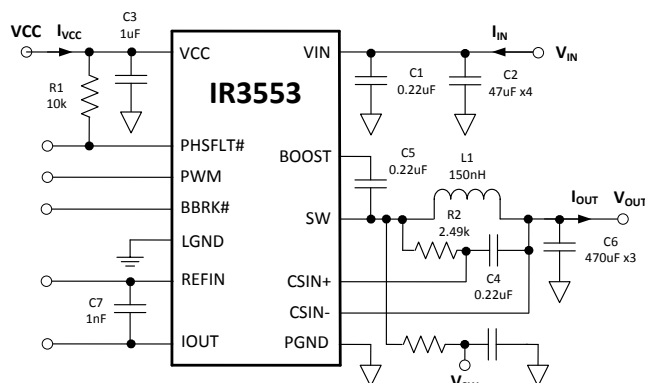

Figure 32: IR3553 Power Loss Measurement
Circuit of Figure 32, $V_{IN}=12V$, $V_{OUT}=1.2V$, $f_{SW} = 400kHz$, $L=150nH$ ($0.29m\Omega$), $V_{CC}=7V$, $T_{AMBIENT} = 25^{\circ}C$, no heat sink, no air flow, 8-layer PCB board of 3.7" (L) x 2.6" (W), no PWM controller loss, no inductor loss, unless specified otherwise.
Circuit of Figure 32, $V_{IN}=12V$, $V_{OUT}=1.2V$, $f_{SW} = 400kHz$, $L=150nH$ (0.29mΩ), $V_{CC}=7V$, $T_{AMBIENT} = 25^{\circ}C$, no heat sink, no air flow, 8-layer PCB board of 3.7" (L) x 2.6" (W), no PWM controller loss, no inductor loss, unless specified otherwise.
The single-phase IR3553 efficiency and power loss measurement circuit is shown in Figure 32.